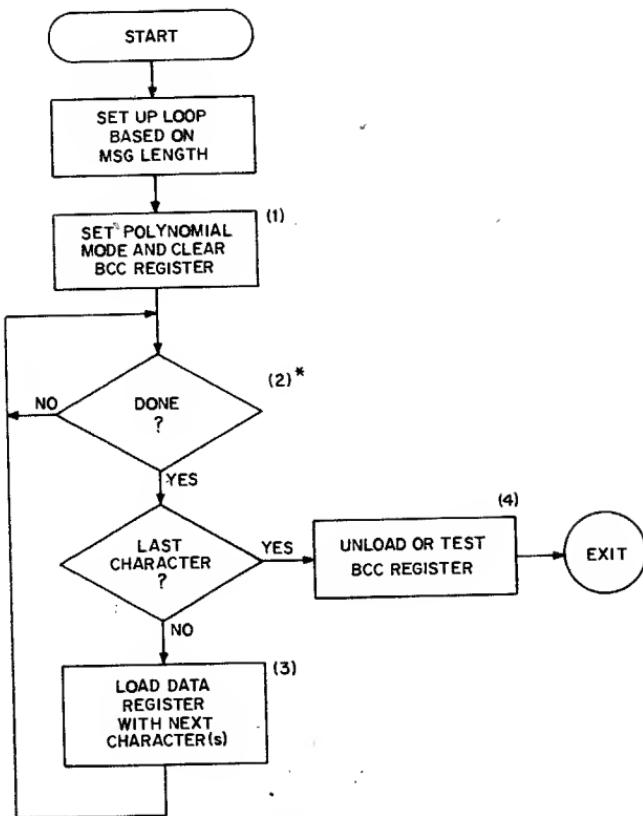

Figure 1
Figure 1 is a flow chart of the recommended practice (complete BCC). The numbers in parenthesis represent the KG11-A operations.
### Initialize KG11-A ((1) in Figure 1)
The purpose of this indicator is to tell the KG11-A if the data register will be loaded each time with a word (16 bits) or a byte (8 bits). Bit 3 (DDB) selects word (DDB = 1) or byte (DDB = 0). Even if characters are being accumulated, the program loop (Figure 1) is shorter if the characters can be presented two-at-a-time (WORD option).
**Test for KG11-A Completion ((2) in Figure 1)**
**Load Data Register With Next Character(s) ((3) in Figure 1)**
**Unload BCC Register ((4) in Figure 1)**